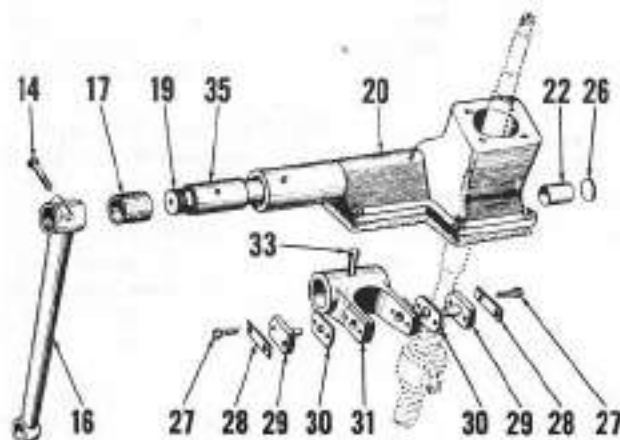

Fig. 12 — Exploded view of steering gear housing, cross shaft and steering arm assembly used on models 880 and 990.
Refer to Fig. 11 for models 770, 780 and 3800; to Fig. 12 for models 880, 990 and 4600; or to Fig. 13 for model 1200. Remove the four cap screws (27) and both pegs (29), then withdraw the steering shaft and ball nut assembly from bottom of unit. Lower bearing race (6—Fig. 8) and seat (7) can now be removed from steering column and baffle (9) from steering shaft. Unscrew the ball nut assembly (13) from shaft and retrieve the 28 loose steel balls (10).